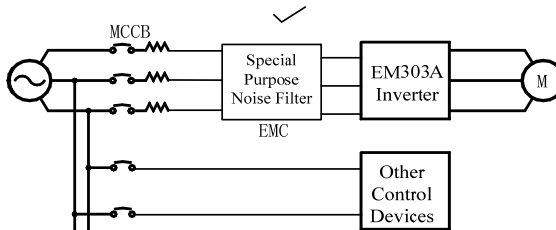
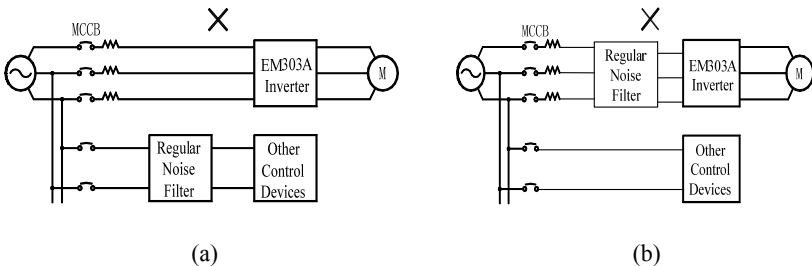

Figure 3-5 Correct Noise Filter Installation
Figure 3-6 Incorrect Noise Filter Installation
- Correct vs incorrect installations of noise filters as shown in Figure 3-5 and Figure 3-6.